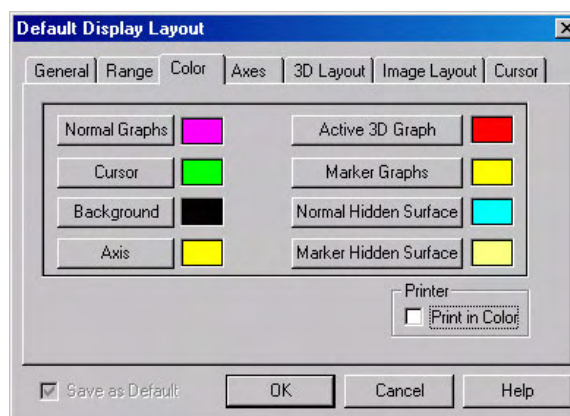

Figure 78. Color tab page
- Click on **Axis**. The color palette will open (Figure 78).